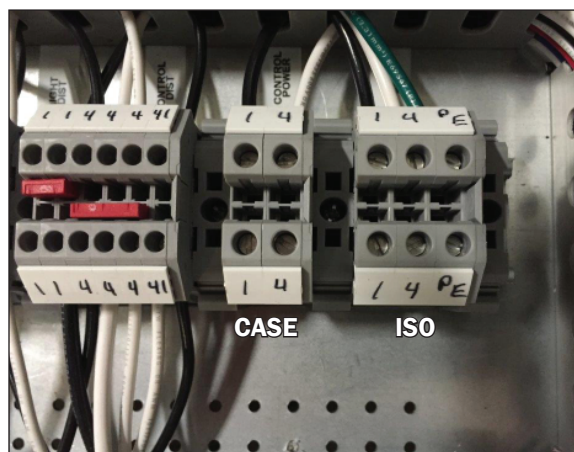

Fig. 9 Field wire connections
2. Locations for the case power and ISO (isolated ground receptacle) power 120V wire connections (Fig. 9) can be found in the raceway.